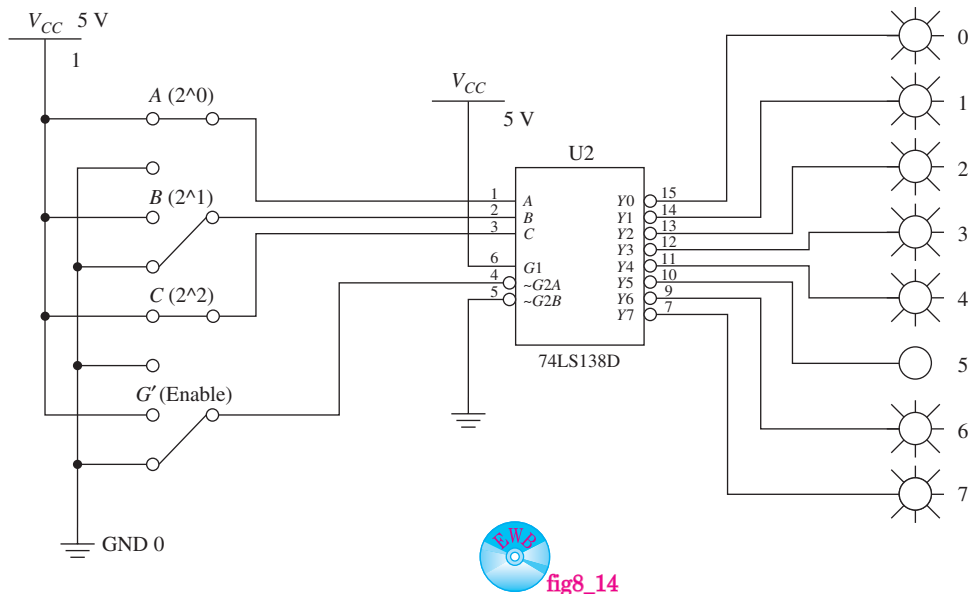

Figure 8–14 Simulation of the 74138 octal decoder using input switches and output LEDs.
MultiSIM® exercise: Use MultiSIM® to open the file *fig8_14* from the textbook companion website.
- Turn on the power simulation switch to perform the simulation shown in Figure 8–14.
The 7442 is a BCD-to-decimal (1-of-10) decoder. It has four pins for the BCD input bits (0000 to 1001) and 10 active-LOW outputs for the decoded decimal numbers. Figure 8–15 gives the operational information for the 7442 from a manufacturer's data sheet.
The 74154 is a 1-of-16 decoder. It accepts a 4-bit binary input (0000 to 1111), decodes it, and provides an active-LOW output to one of the 16 output pins. It also has a two-input active-LOW enable gate for disabling the outputs. If either enable input (\overline{E}_0 or \overline{E}_1) is made HIGH, the outputs are forced HIGH regardless of the A_0 to A_3 inputs. The operational information for the 74154 is given in Figure 8–16.
The logic diagram in Figure 8–16(c) shows the actual combinational logic circuit that is used to provide the decoding. The inverted-input AND gate is used in the circuit to disable all output NAND gates if either \overline{E}_0 or \overline{E}_1 is made HIGH. Follow the logic levels through the circuit for several combinations of inputs to A_0 through A_3 to prove its operation.